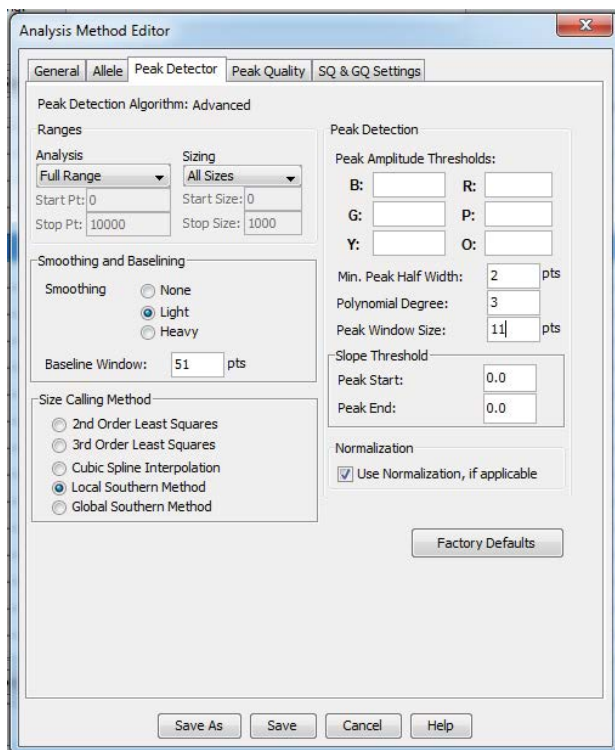

Figure 17. The GeneMapper® ID-X Peak Detector tab.
10. Select the Peak Detector tab (Figure 17). You will need to optimize these settings. In-house validation should be performed.
4. The peak window size shown in Figure 17 is not the default setting. It has been changed to 11 from the default value of 15. This ensures that the software can resolve alleles in the ladder that are 1 base apart for the larger loci such as D1S1656, D12S391 and D2S441.
9. Select the Peak Detector tab (Figure 17). You will need to optimize these settings. In-house validation should be performed.